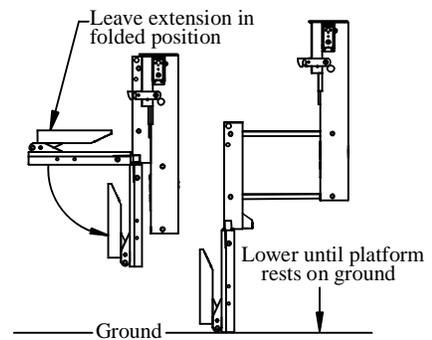

Figure 2: Lower the Platform.
2. **Remove** the platform drop chains and **ROTATE** the platform until it hangs vertically (Fig. 2).
3. **Lower** the liftgate until the platform rests on the ground (Figure 2).